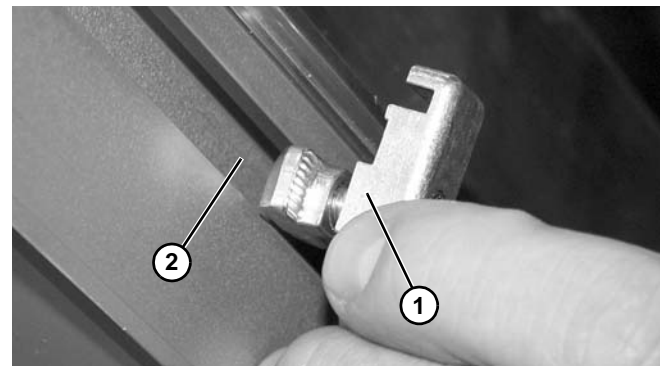

Figure 27
1. Install guide clip assembly (Figure 27, item 1) into conveyor channel (Figure 27, item 2) as shown.